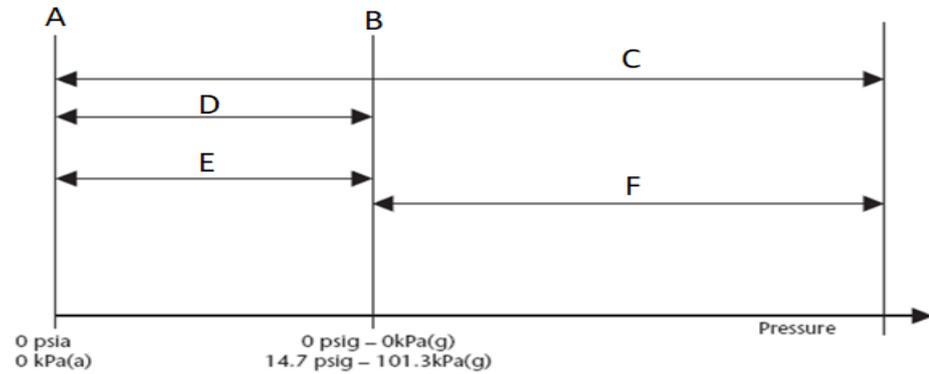

Figure 2(a)
- (a) Identify the types of pressure that labelled as A, B, C, D, E, and F as shown in **Figure 2 (a)**.